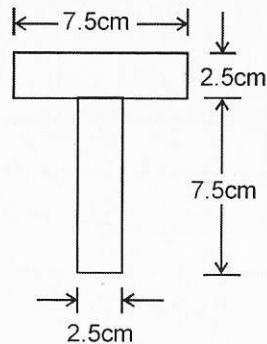

Figure 6
5. (a) A simply supported beam of span $l = 2.7\text{m}$ has the T-section as shown in Fig.6. The beam carries a load $P = 500\text{ kg}$ at a point 90 cm from the right-hand support. Calculate the maximum shear stress in the beam.